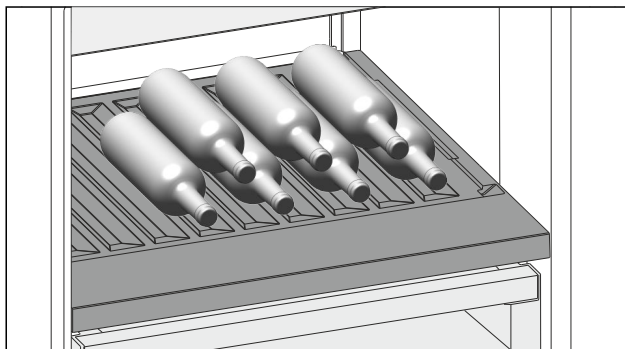

Fig. 163 Example illustration
- Place bottles in the back row with their bases against the back wall. (see Fig. 163)